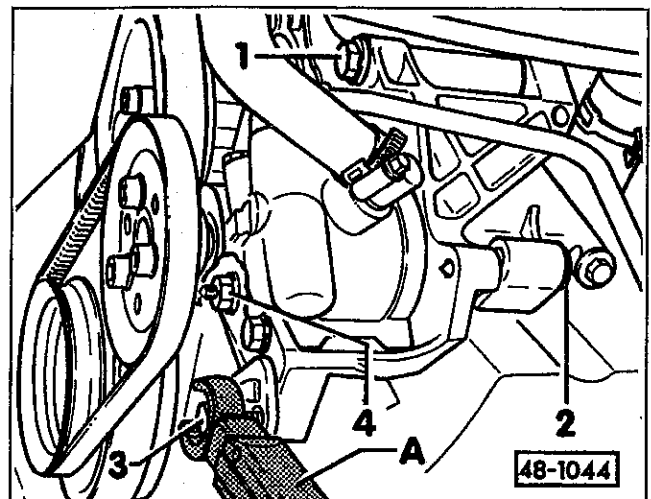

Fig. 21. To remove V-belt, loosen bolts 1, 2, 3, and nut 4. Belt tension is adjusted at tensioning nut using torque wrench (A).
1. Loosen power steering pump bolts and nuts shown in Fig. 21. Remove belt from pulleys.
Loosen adjustment clamping bolt (Fig. 21, bolt no. 3) at least one full turn.
- When the tensioning nut is torqued to the specified setting, belt tension will be correct. See Fig. 21.